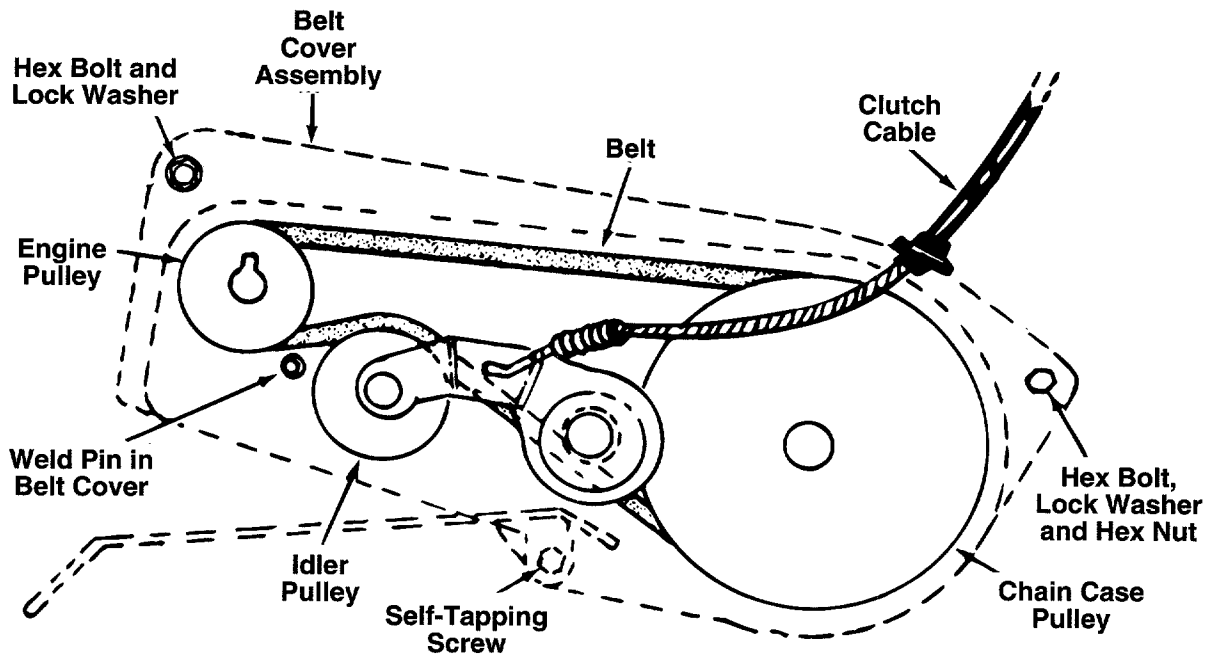

FIGURE 12.
1. Remove the belt cover assembly by removing one hex bolt and lock washer, one self-tapping screw and one hex bolt, lock washer and hex nut. See figure 12.
**NOTE:** Upon reassembly of belt cover, place the belt over top of the idler pulley and between engine pulley and weld pin on belt cover assembly. See figure 12.